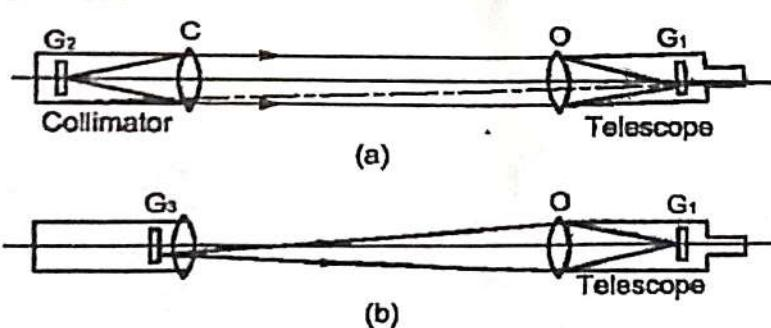

Figure 2.111 Alignment telescope and collimator-measuring angular displacement
* The use of telescope with the collimator is given in figure 2.111 . If the telescope is aligned with the collimator and it is sighted on it with its focus adjusted to infinity target graticule G_2 will appear in the field of view , since rays from this target will emerge parallel beams from the collimating lens .